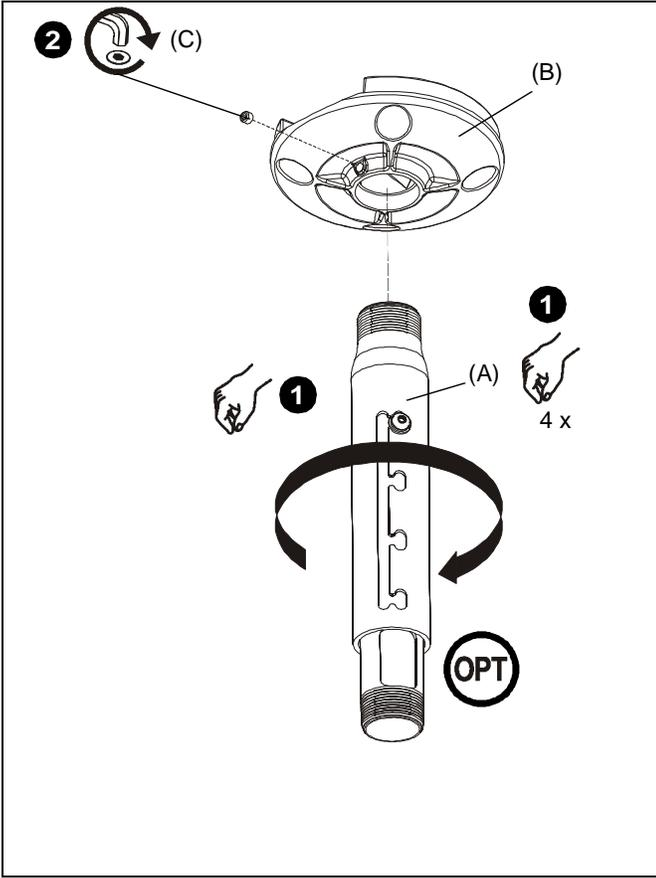

Figure 4
1. Install adjustable column (A) into plate. (See Figure 4) Securely tighten column.
- Ensure column (A) engages four full threads into plate.
- Ensure cable access opening is rotated to desired position (optional installation, column (A)).
2. Secure column (A) by tightening set screw (C) in plate using 3/16" hex key (D). (See Figure 4)